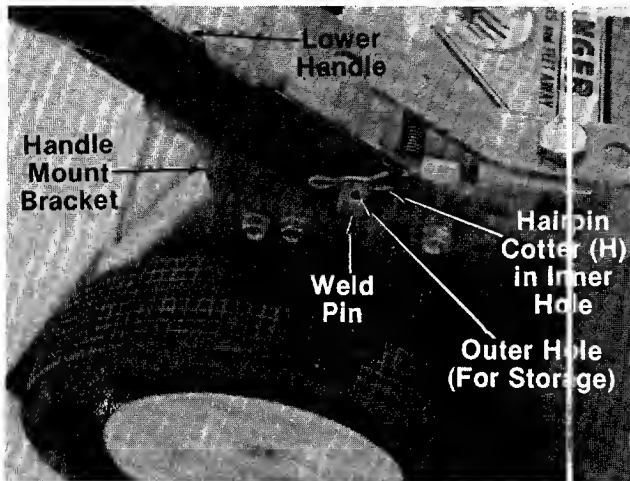

FIGURE 2.
- B (1) Curved Head Carriage Bolt
- C (2) Lock Washers 5/16" I.D.
- D (2) Hex Nuts 5/16-18 Thread
- E (1) Plastic Cap
- F (2) Phillips Head Screws
- G (2) Cable Ties
- H (2) Hairpin Cotter
- I (2) Front Hub Caps (Optional)
3. Attach the lower handle by placing the bottom holes in the lower handle over the weld pins on the handle mount brackets. Make certain the instruction label on the lower handle can be read from the operating position. Secure with hairpin cotters (H) in inner holes on weld pins. See figure 2.